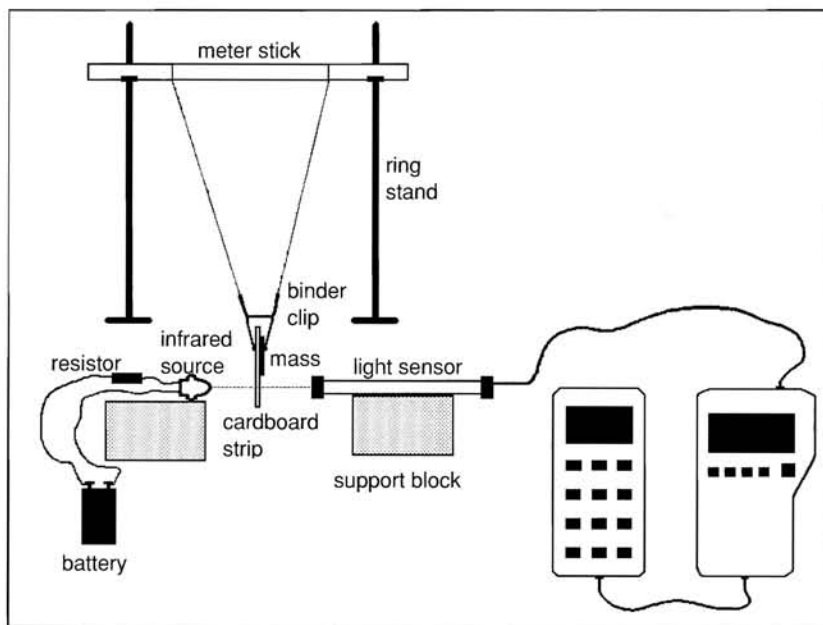

Figure 1: Equipment Setup
To connect the equipment as shown by Figure 1:
- 4 Assemble the pendulum, which consists of a 20 g mass and about a 5 cm-wide cardboard strip held together with a binder clip. A string passing through the clip handles supports the pendulum (refer to Figure 1).
- 7 Secure the light sensor and infrared source to support blocks as shown in Figure 1, and position them directly in line with the resting pendulum about 4 or 5 centimeters apart.